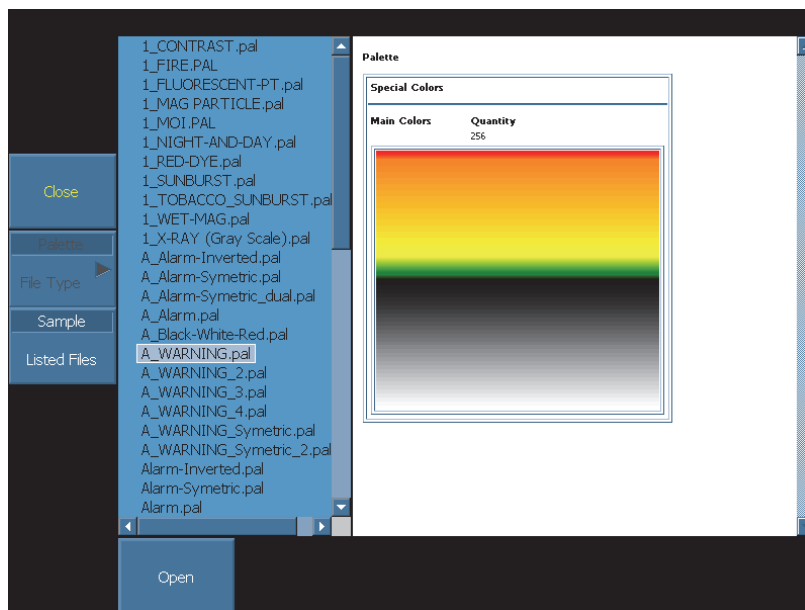

Figure 9-17 Loading the A_Warning.pal color palette
- Optimize the visualization of the defect in the C-scan view by changing the color palette. Select **Display > Color > Load Palette**, and then select the **A_Warning.pal** palette (see Figure 9-17 on page 159).